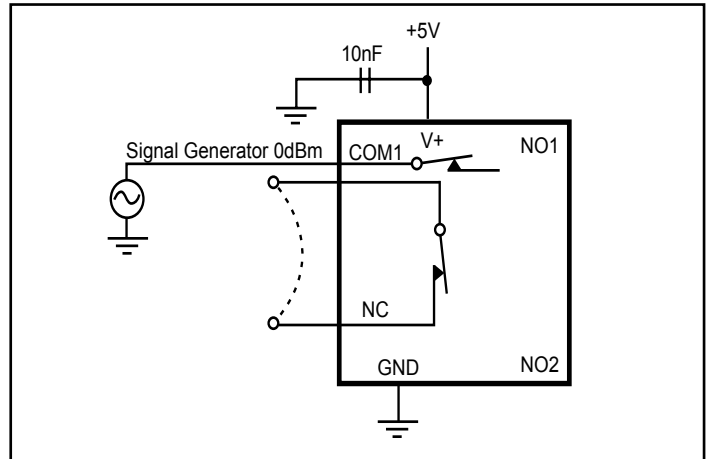

Figure 4. Crosstalk
| Crosstalk ⁽⁸⁾ | $I_{COM(OFF)}$ | $R_L = 50\Omega$, $C_L = 5pF$, $f = 10MHz$, see figure 4 | | | -92 | | |
8. Between any two switches. See Figure 4.